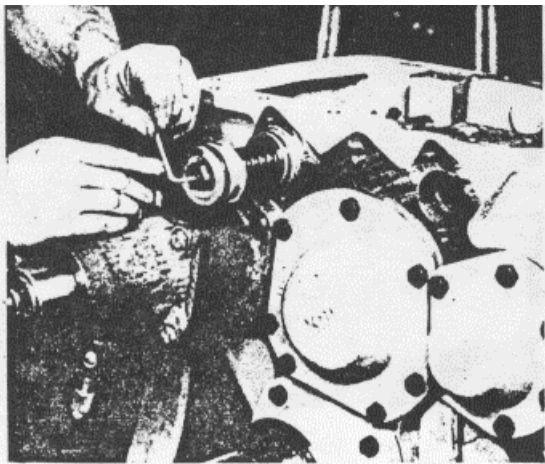

Fig. 34
2. Place a small (piston-to-shift-shaft sealing) o-ring (Item 11) over the threaded end of each shift shaft. The shallow counterbore in the piston (Item 9) should be toward the shoulder on the shift shaft; the deep counterbore provides room for the retaining nut. Install the piston retaining washers (Item 7) in the deep counterbore of the piston over the end of the shift shaft. Install piston retaining nut (Item 6 or 39). The nut used on the two groove shift shaft will be a special oversized nut (Item 39) if the transfer case is equipped with a PTO unit. Tighten nut to specification and tighten the nut locking set screw (Item 40) into the end of the special nut (Item 39-if case has a PTO unit). See Fig. 34.